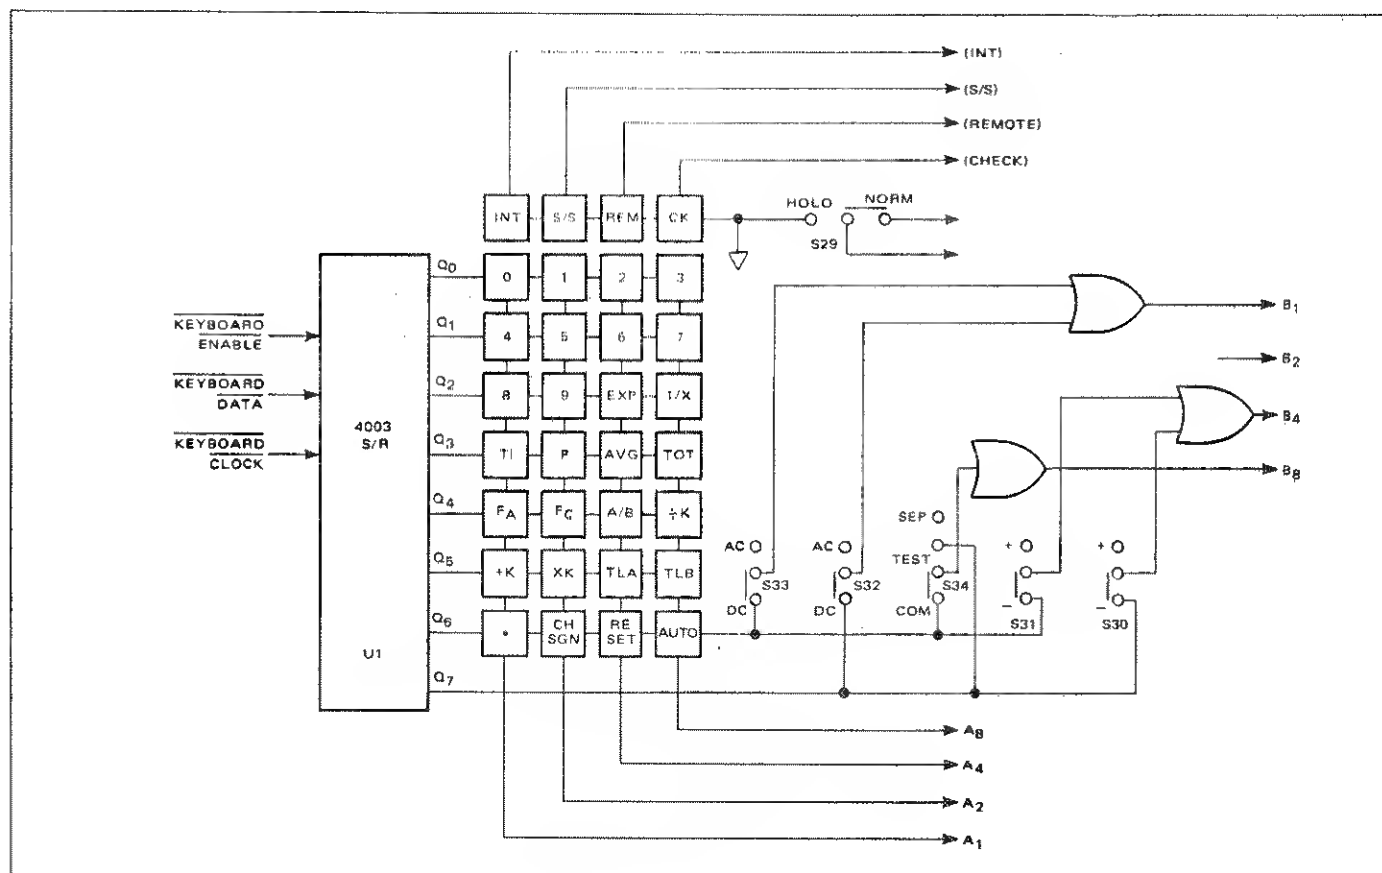

Figure 4.20 - Keyboard
4.4.8.1 The keyboard (figure 4.20) consists of 32 push-buttons, five (5) 2-position slide switches, one (1) 3-position slide switch, a type 4003 static shift register and some diode logic. The keyboard generates all the local control inputs for instrument operation.